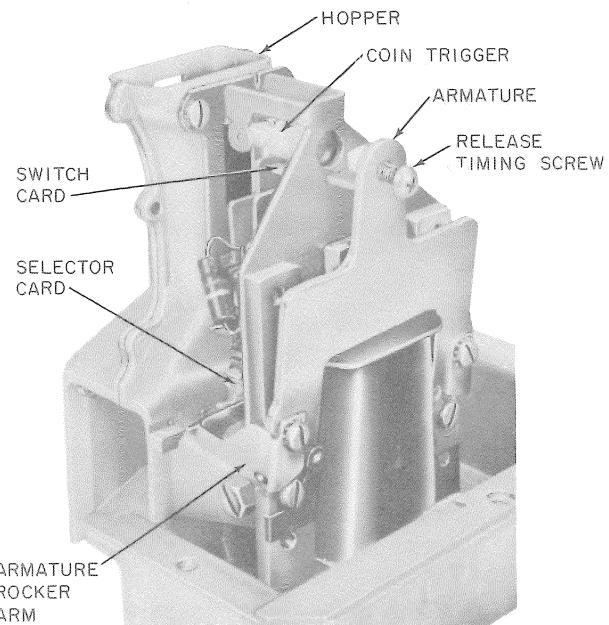

Fig. 16—P-10E683 Mechanism Unit With P-13E961 Coin Relay
- Manual or dial coin first single-coil coin relay (Fig. 16).
- 2.36** Most 230-, 233-, and 234-type coin collectors are equipped with a P-13E961 coin relay (Fig. 16) which replaces the P-10E786 coin relay now rated MD. The relays are interchangeable, but most of the components are not.